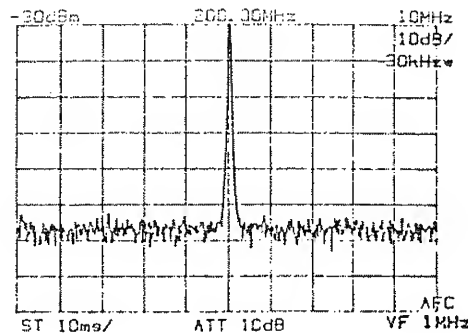

Figure 4-22 Setting the Measured Signal
- ③ Set the spectrum of the measured signal to the center of the screen (Figure 4-22).